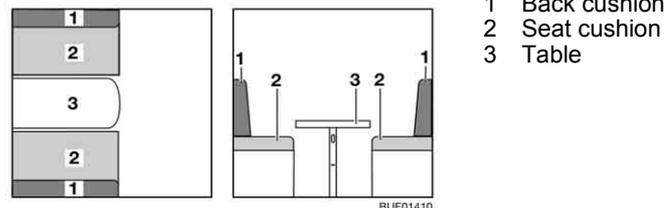

Fig. 115 Prior to conversion
- Convert the table (Fig. 115,3) to a bed foundation (see section 6.12).
- Remove the back cushions (Fig. 115,1).
- Pull one seat cushion (Fig. 115,2) onto the table.